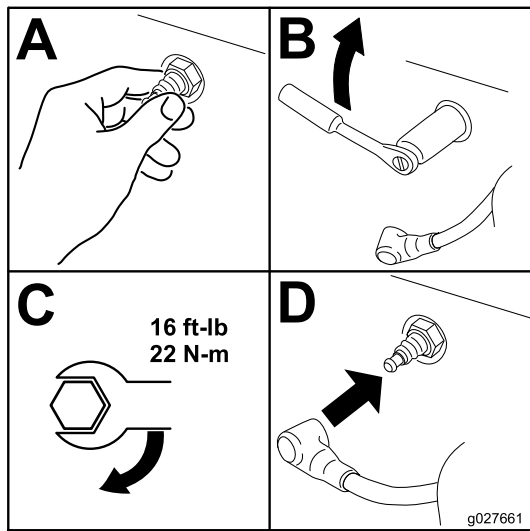

Figure 64
1. Install the spark plug(s) as shown in Figure 64.